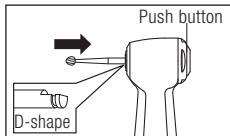

Fig. 2
- ① Insert the bur until it is correctly seated in place. (Fig. 2)
- ② Depress the push button and insert the bur into the chuck until the bur “notch” mechanism engages. Release the button.
- ③ Confirm that the bur is not removed by gently pulling and pushing the bur without depressing the push button.